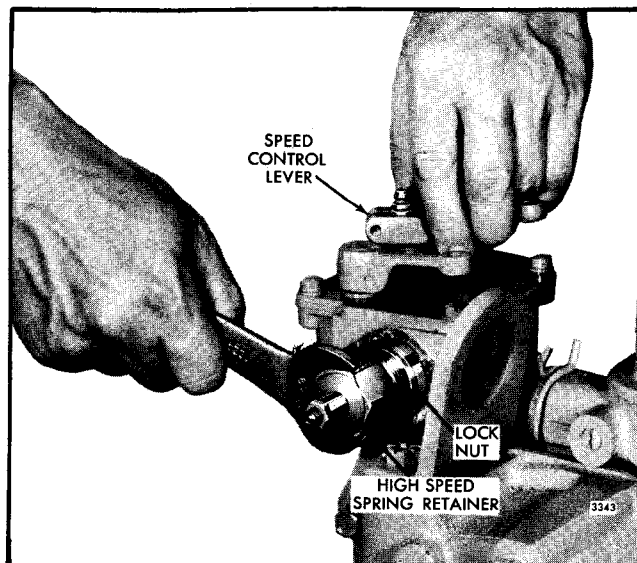

Fig. 6 - Adjusting Maximum No-Load Speed
1. Loosen the locknut (Fig. 6) and back off the high-speed spring retainer approximately five turns.